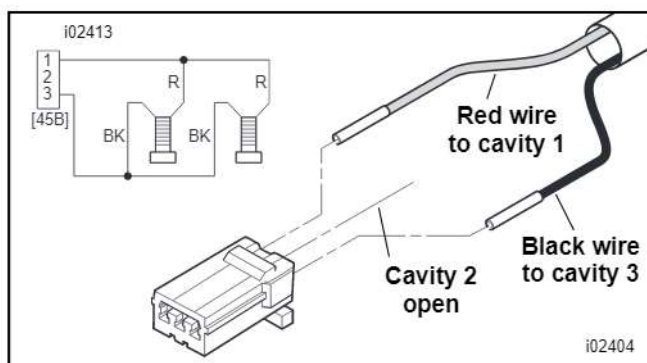

Figure 10. Wiring the Socket Housing
12. Insert the terminals on the ends of the red and black wires into the socket housing (11) from the kit as shown in Figure 10. Refer to AMP MULTILOCK ELECTRICAL CONNECTORS in the Service Manual.